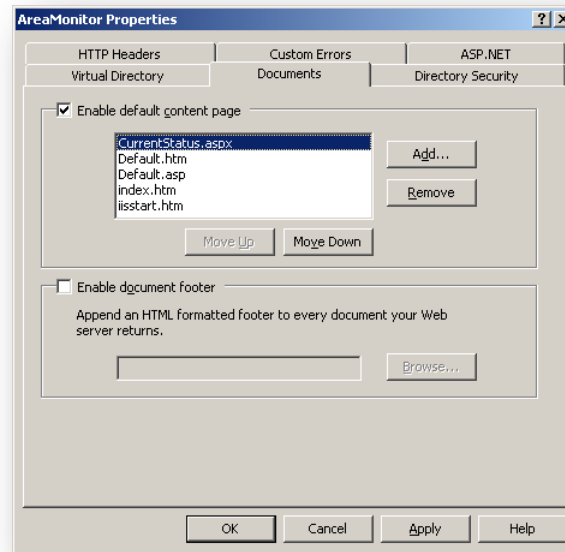

Figure 97 – AreaMonitor Properties (Documents)
16. Verify that the IIS Manager window resembles Figure 97, then close the IIS Manager window.